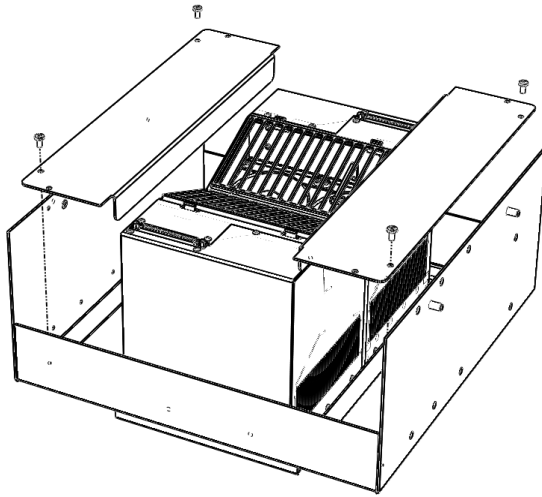

Figure 10. Install Cradle Adapter Plates,
4. Insert a Side Plate on both sides of Cradle Adapter Plate. The Side Plate bend will fit over and into the Adapter Plate. Secure both Side Plates with M4 x 8-mm screws. (Figure 10 & 11)